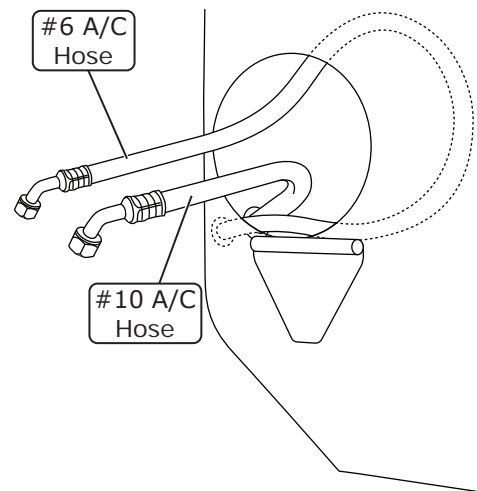

Figure 1
3. Once hoses have been ran through the firewall as shown in Photo 4, below, secure the plate and rubber boot to the firewall in the fender well with (2) #10 x 1/2" sheet metal screws into the previously drilled 5/32" holes (See Photo 4, below).
4. From the passenger compartment, loop the #6 A/C hose inside the kick panel and make a 360° turn. Then pull the 45° fitting through the kick panel opening (See Figure 1, below). **NOTE: This is done to prevent kinking of the A/C hoses.**
5. Locate the kick panel cap bracket and insert (2) large grommets into the holes. Route the #6 and #10 A/C hoses through the grommets (See Photo 5, below). **NOTE: For the #10 A/C hose, it is easier to feed the hose into the kick panel cap and then through the grommet.**
6. Apply a 1/2" bead of silicone to the mating surface of the kick panel cap bracket and install it onto the kick panel using (3) OEM screws (See Photo 6, below).